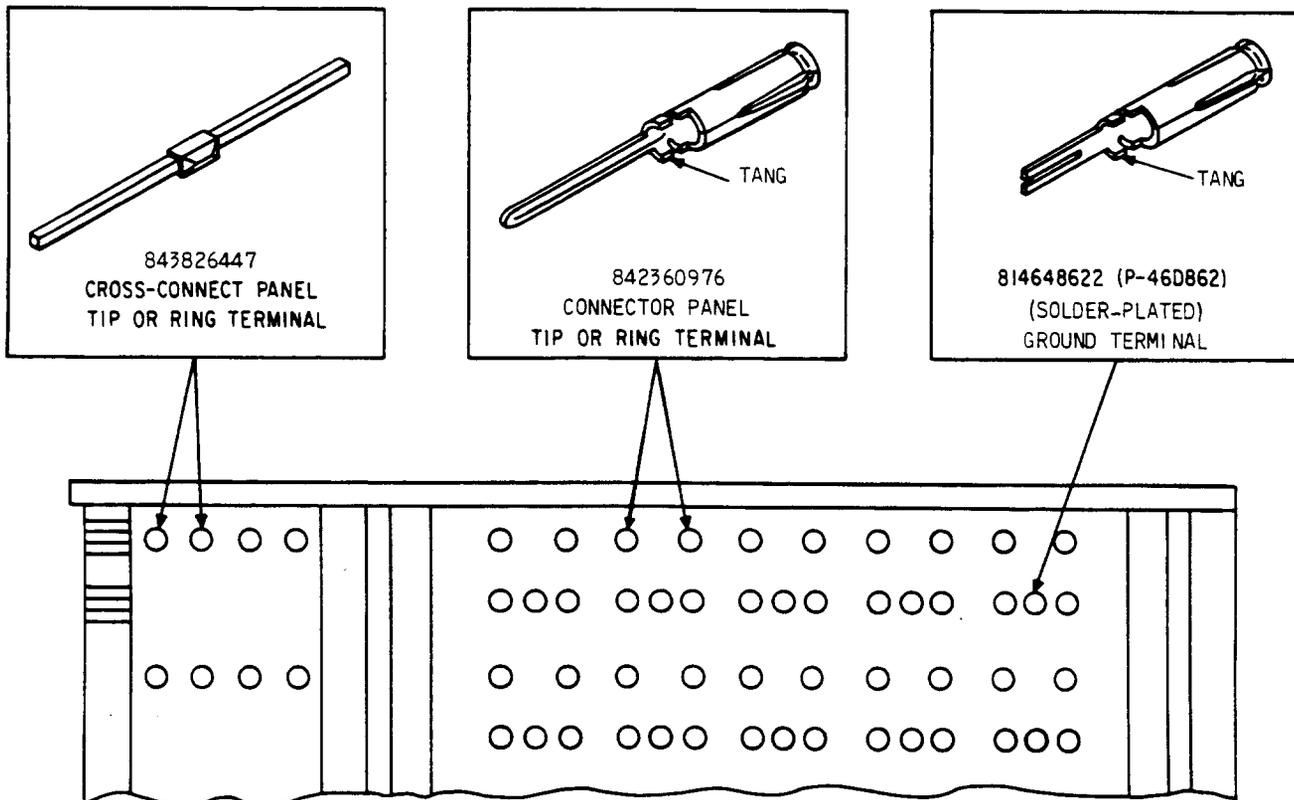

Figure 18—309-Type Connector — Replacement Terminals
4.07 To remove the 843826447 cross-connect tip or ring terminal (Figure 18), proceed as follows:
4.09 To remove the 814648622 (P-46D862) ground terminal (Figure 18), proceed as follows:
4.11 To remove the 842360976 connector panel tip or ring terminal (Figure 18), proceed as follows: